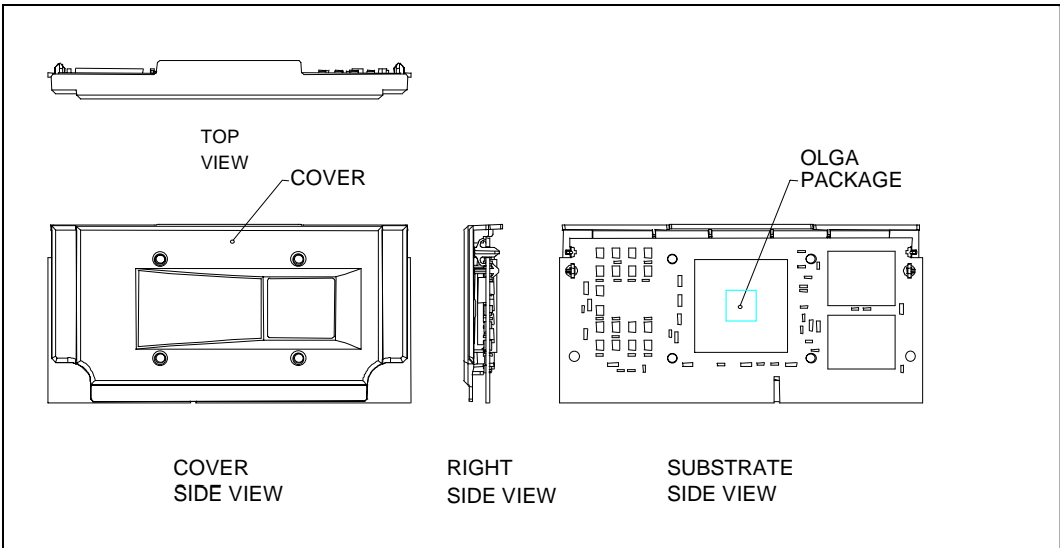

Figure 4. S.E.C.C.2 Package with OLGA Core and L2 Cache
- Figure 4. S.E.C.C.2 Package with OLGA Core and L2 Cache11